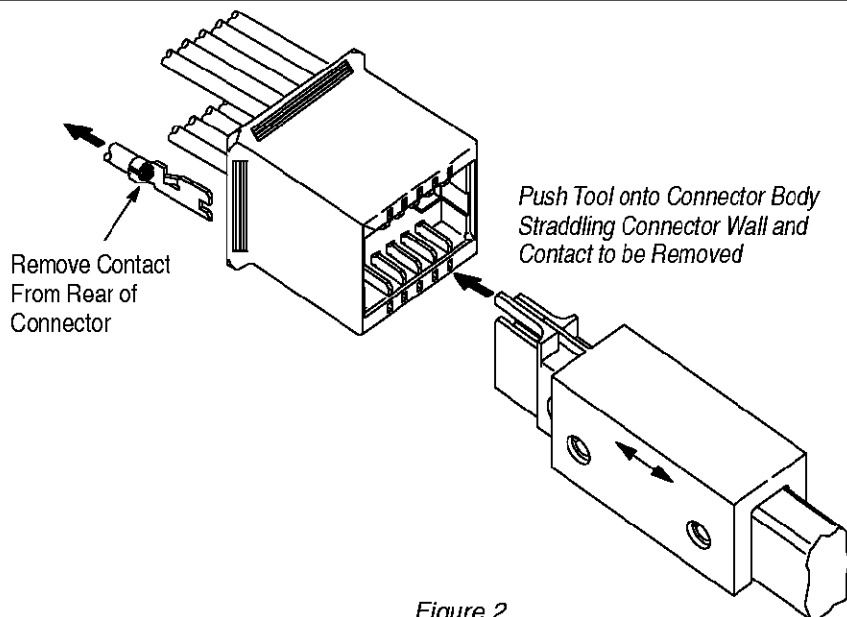

Figure 2
3. EXTRACTION PROCEDURE (Figure 2)
1. Place the extraction tool in position shown in Figure 2.